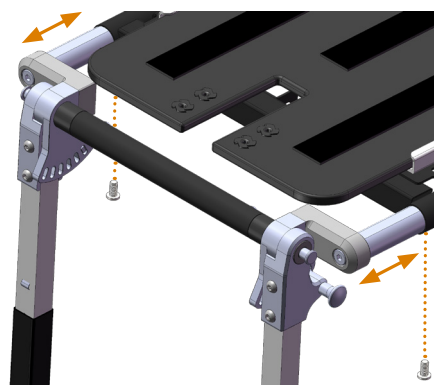

Figure 20. Bolts for leg rest unit
- Remove the two bolts (Figure 20) that secure the leg rest unit to the seat frame. The same procedure applies to both Separate leg rests and Centre leg rest.